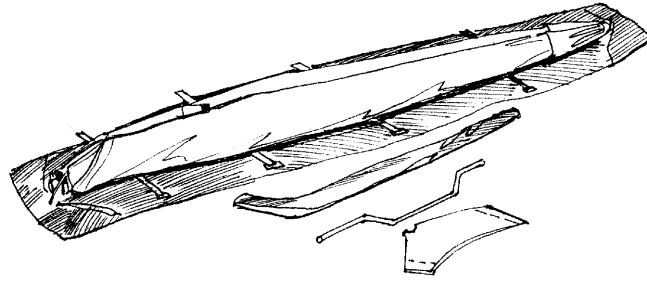

Fig. 22
2.2.1. Undo the zipper on the 6 metres bag and remove the battens in the bags, speedbar and the nose cone from the bag (Fig. 22).